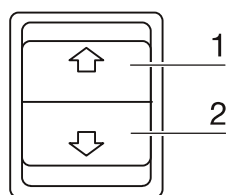

Figure 41 Basic window functions of the auxiliary Rocker Switch
1. Press the control element [1/Figure 41].
3. To lower the window, keep the control element depressed [2/Figure 41].